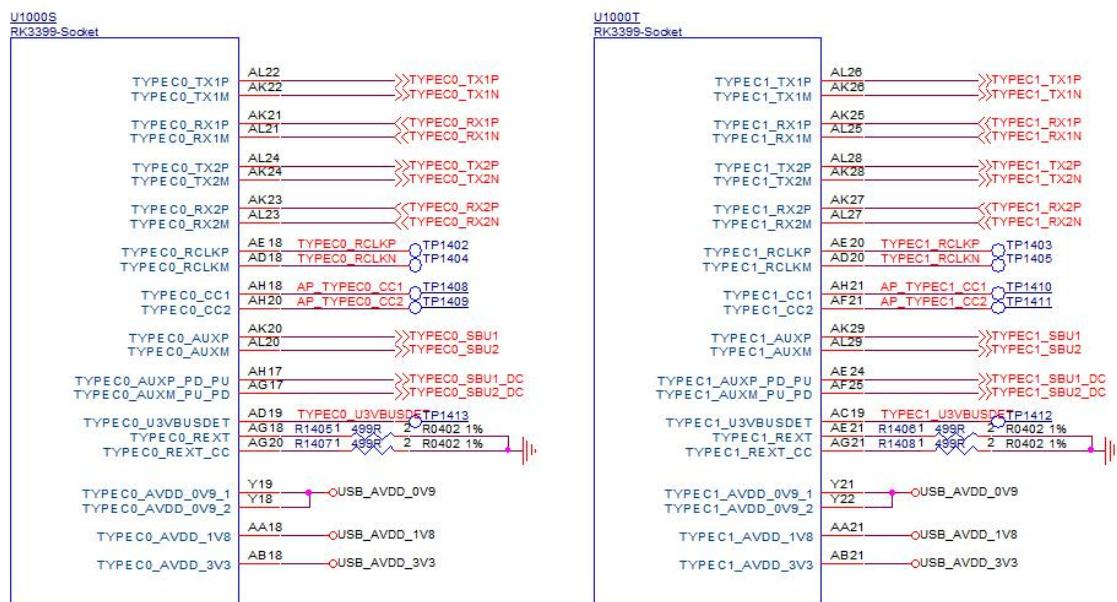

Figure 3-52 RK3399 USB 3.0 PHY
- If use PD function, it needs to add discharge circuit in power input port to prevent the device from damaged by over-voltage caused by replacing the device, shown as Figure 3-52.